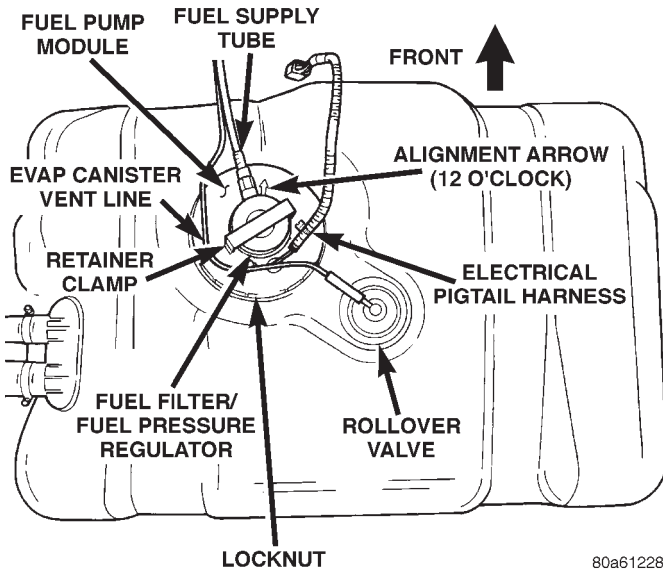
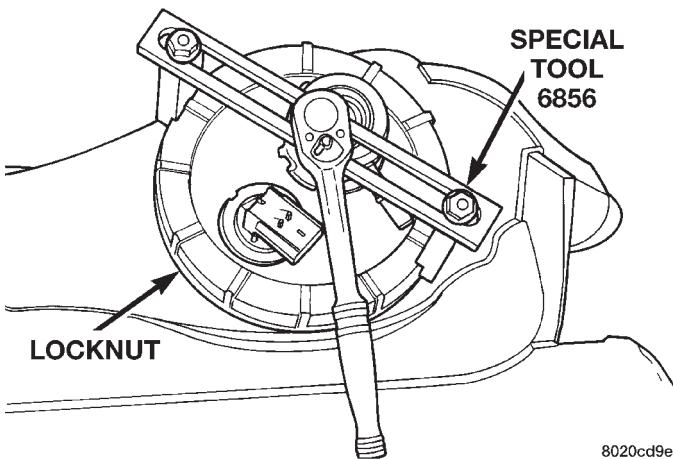

Fig. 25 Top View of Fuel Tank and Fuel Pump Module
Fig. 26 Locknut Removal/Installation—Typical
- (1) Drain fuel tank and remove tank. Refer to the Fuel Tank Removal/Installation section of this group.
- (2) Thoroughly wash and clean area around pump module to prevent contaminants from entering tank.
- (3) The plastic fuel pump module locknut is threaded onto fuel tank (Fig. 25). Install Special Tool 6856 to fuel pump module locknut and remove locknut (Fig. 26). The fuel pump module will spring up when locknut is removed.
- (4) Remove module from fuel tank.